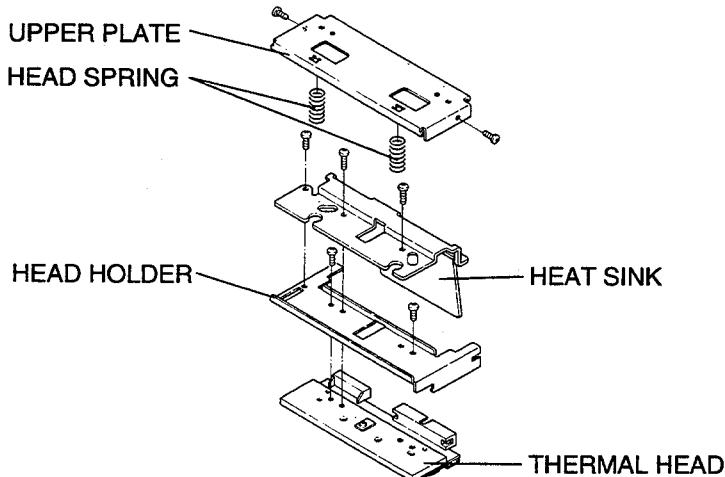

Fig. 2-4
5. Remove the screws securing the UPPER PLATE. (Fig.2-4)
7. Remove the 3 screws securing the HEAT SINK. (Fig.2-4)